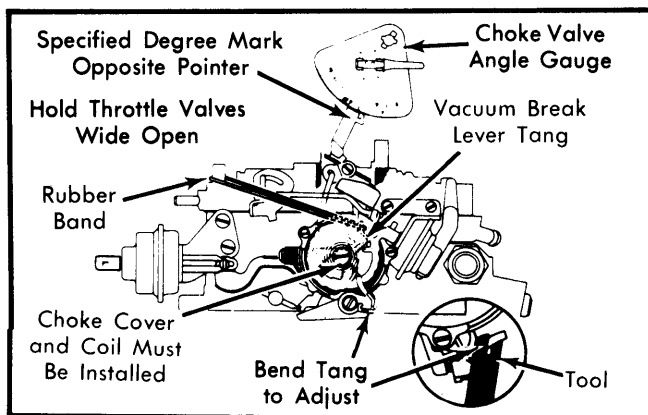

Fig. 9 Adjusting Choke Unloader
1) If removed, install choke thermostatic cover and coil assembly in choke housing, using special rivets in service kit. Hold throttle valves wide open. See Fig. 9.